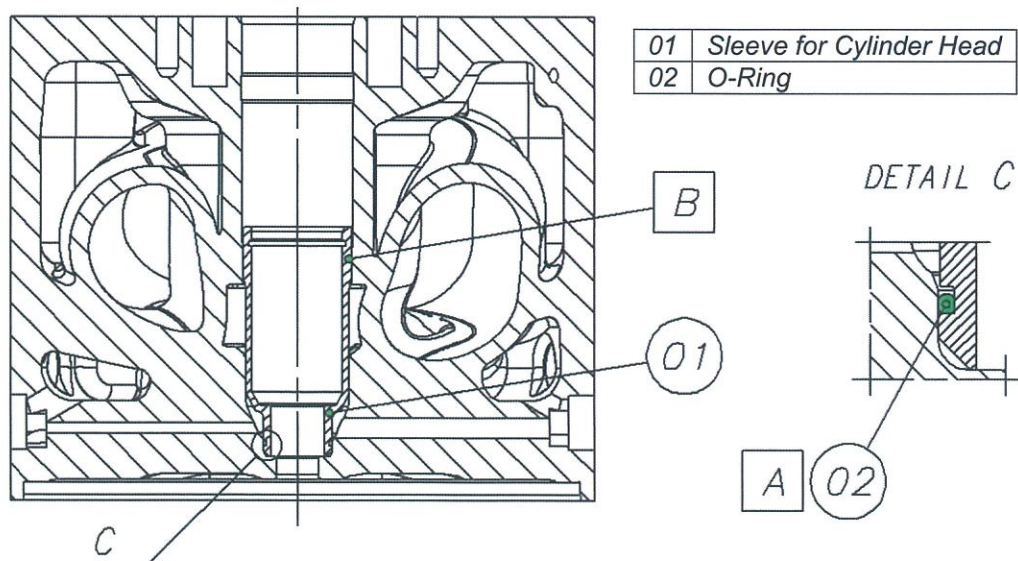

Figure 3: chamfer drawing
- 9) Apply Loctite 638/648 on the upper sealing surface of the injector sleeve pocket, see Figure 3.